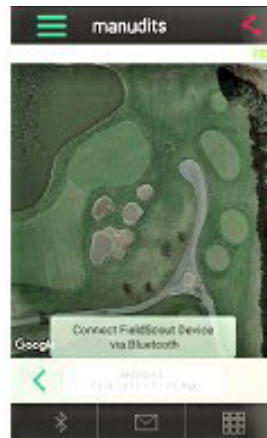

Figure 5b - Bluetooth Connect button (Freeform)
7. In SpecConnect Freeform mode, the app will transition to the session screen (Figure 5b)